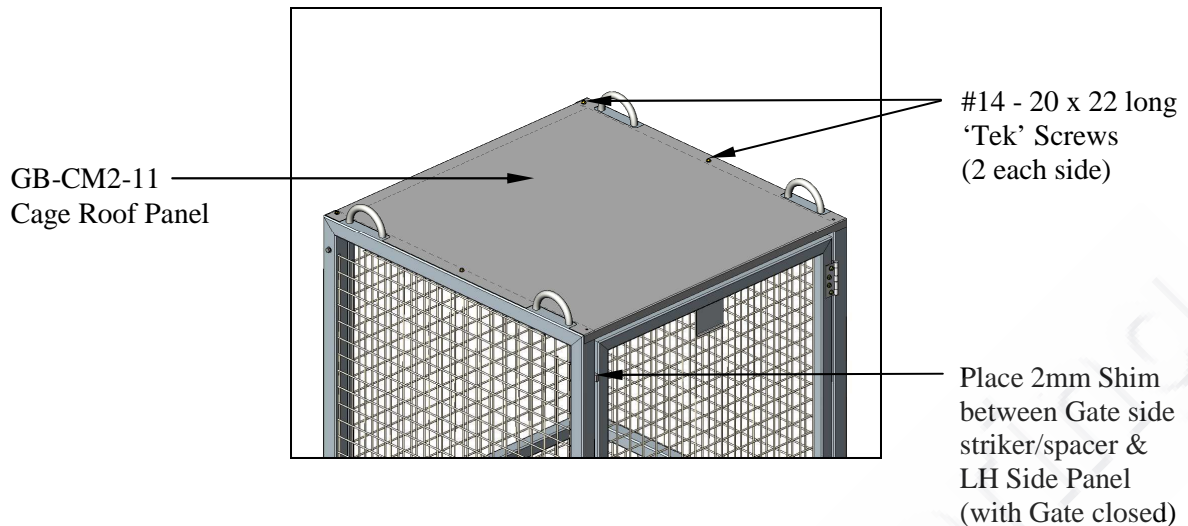

Figure 1.7
- H) Place the Cage Roof Panel (Item 6) on top of the Cage as shown in Figure 1.7 above. Ensure the fold in the Cage Roof Panel is overhanging at the front/Gate end of the Cage. Place a 2mm shim (supplied) between the Gate side striker/spacer and Cage LH Side Panel to ensure correct operation of the Gate with the Roof components fitted. With the Roof Panel hard against the Side Panels at the front and sitting centrally on the roof of the Cage, secure the Panel at the rear and centre using #14 – 20 x 22 long 'Tek' Screws (Item 21 – 4 required).